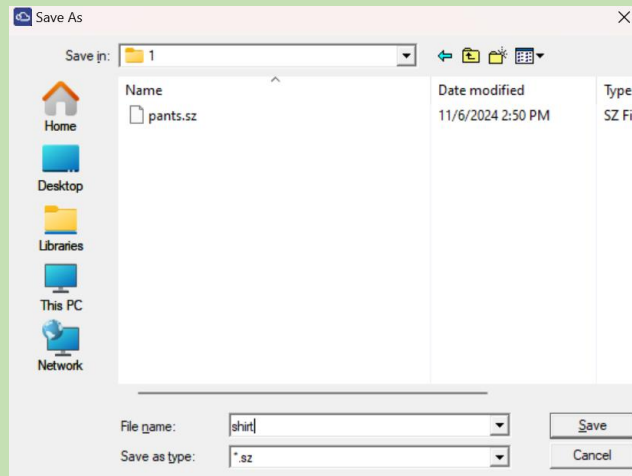

Figure 3-4
4. Save: Commonly used size chart parts can be saved in a file. (Figure 3-4)